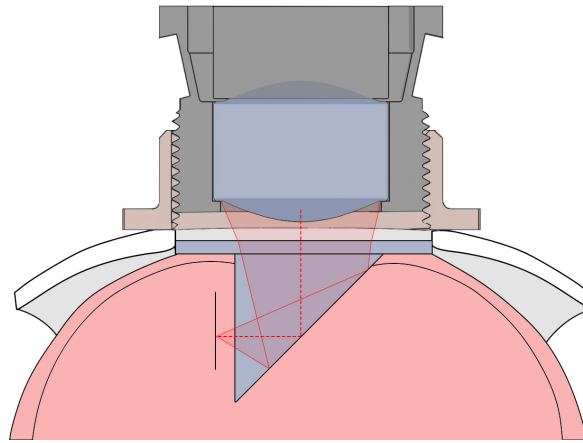

Figure 2.6: Side-prism Method
- The **Side-prism Method** can be used in conjunction with a **Cranial window**. A microprism is inserted into the surface areas of the brain (Fig. 2.6), which allows the viewing of regions perpendicular to the normal focal plane.